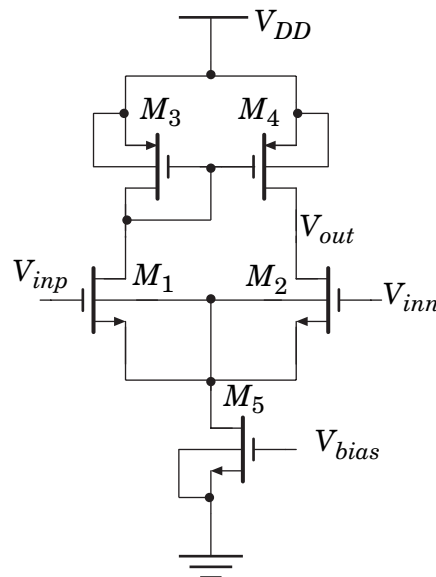

Figure 5.1 A differential gain stage.
- A differential gain stage as the one shown in Figure 5.1 is to be implemented on silicon. In what types of processes (p-substrate and n-well, n-substrate and p-well, twin well process) is it possible to implement this amplifier? (2p)